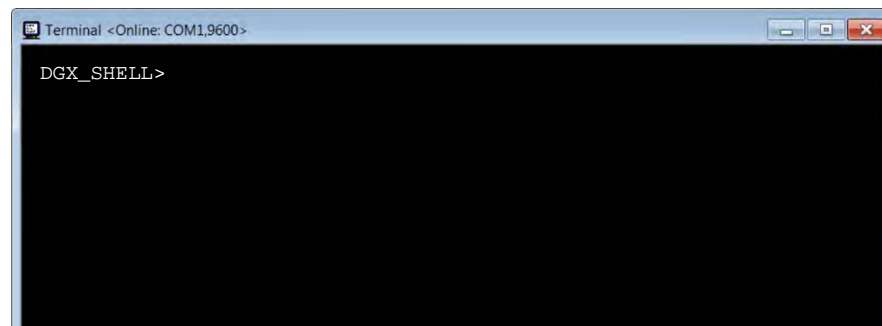

FIG. 155 NetLinX Studio - Terminal Window Communication Settings dialog
5. Click **OK**. The Terminal window opens (FIG. 155):